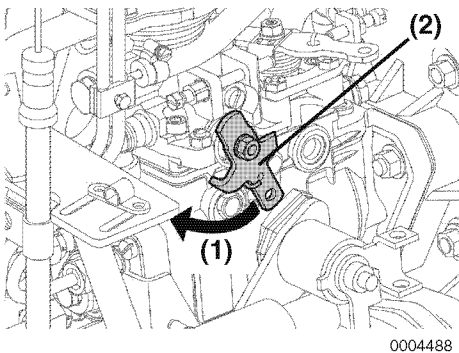

Figure 6
If the engine cannot be shut down by the stop switch on the panel, stop the engine by moving the stop lever (Figure 6, (2)) by hand to the left (Figure 6, (1)). The lever is attached to the fuel injection pump.